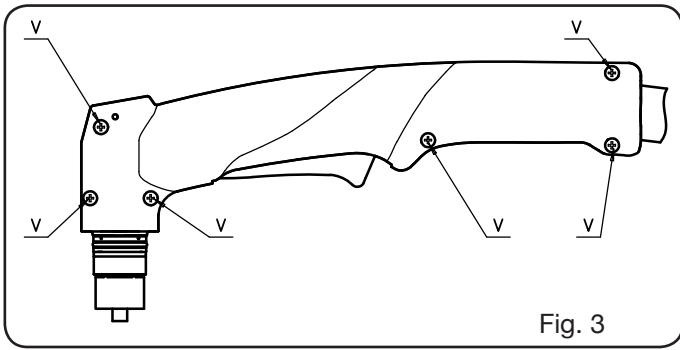

Fig. 3
- Unscrew the 6 screws **V** Fig.3 and remove the **LH** grip.